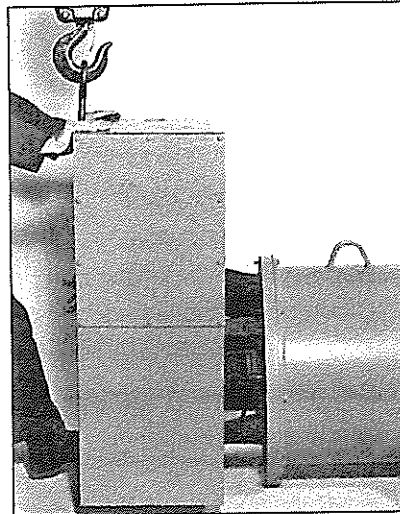

Figure 6-7
4. Remove conduit box (figure 6-7).